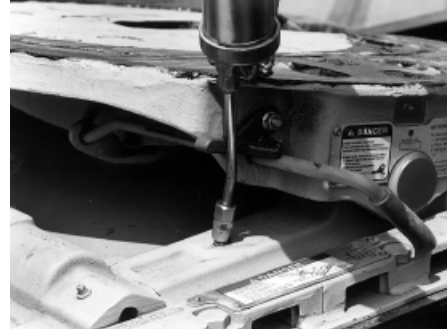

Figure 35
- a. Apply grease to the slider bracket fittings (*Figure 35*) to lubricate the sliding surfaces between the saddle and base plates.